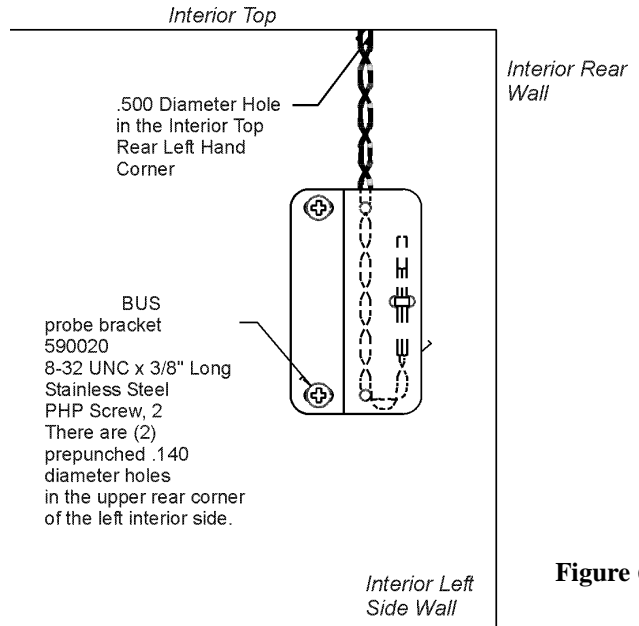

Figure 6-4
- Locate the 0.500" pre-punched hole in the upper left hand back corner of the chamber ceiling. Remove the tie wrap securing the coiled probe/solenoid harness. Uncoil the probe lead and run the probe tip (approximately 12") down through 0.500" porthole (Figure 6-4).
- Tap #8-32 the two pre-punched holes located on the interior left wall of the freezer. Mount the bracket. Figure 6-4 shows the Back-Up probe mounted on the interior left side wall of the freezer.